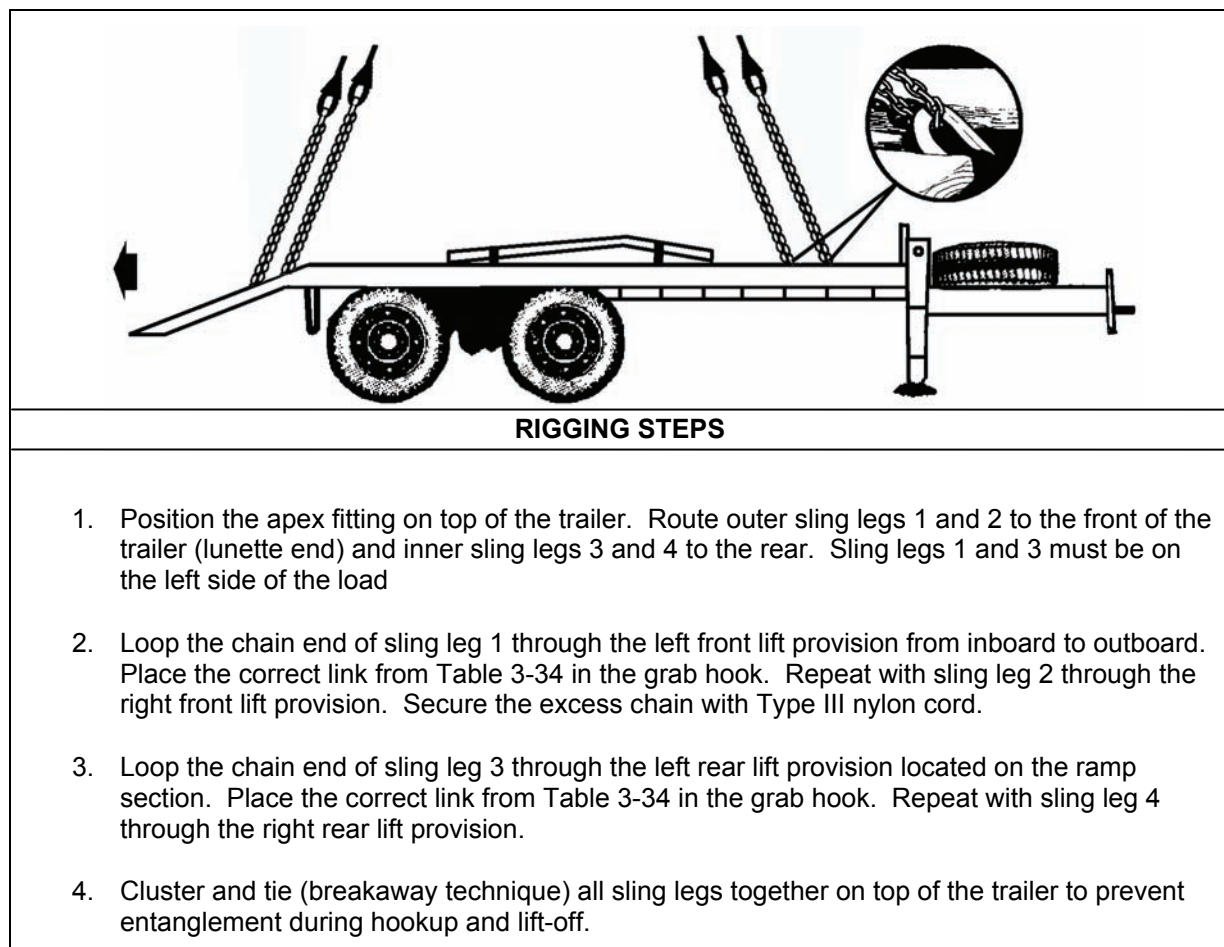

Figure 3-34. Small Emplacement Excavator Transporter
- **Rigging.** Rig the load according to the steps in Figure 3-34.